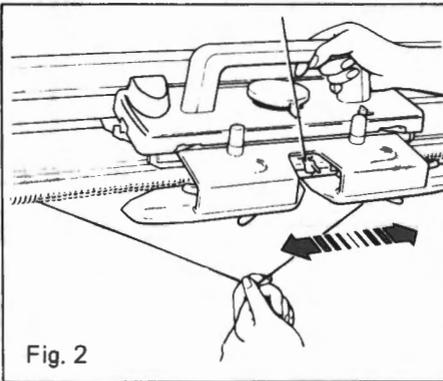

Fig. 2
- (2) Take yarn from the Yarn Clip. (Fig. 2)
- (4) Pull the Ravel Cord tight and slowly move the Carriage knitting 6–7 rows. (Fig. 2)